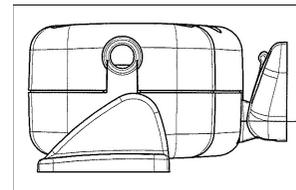

Figure 11
- G. Complete assembly of the chain terminal with the safety clip inserted onto the provided pin Ø4x32 in median position (see fig. 11).